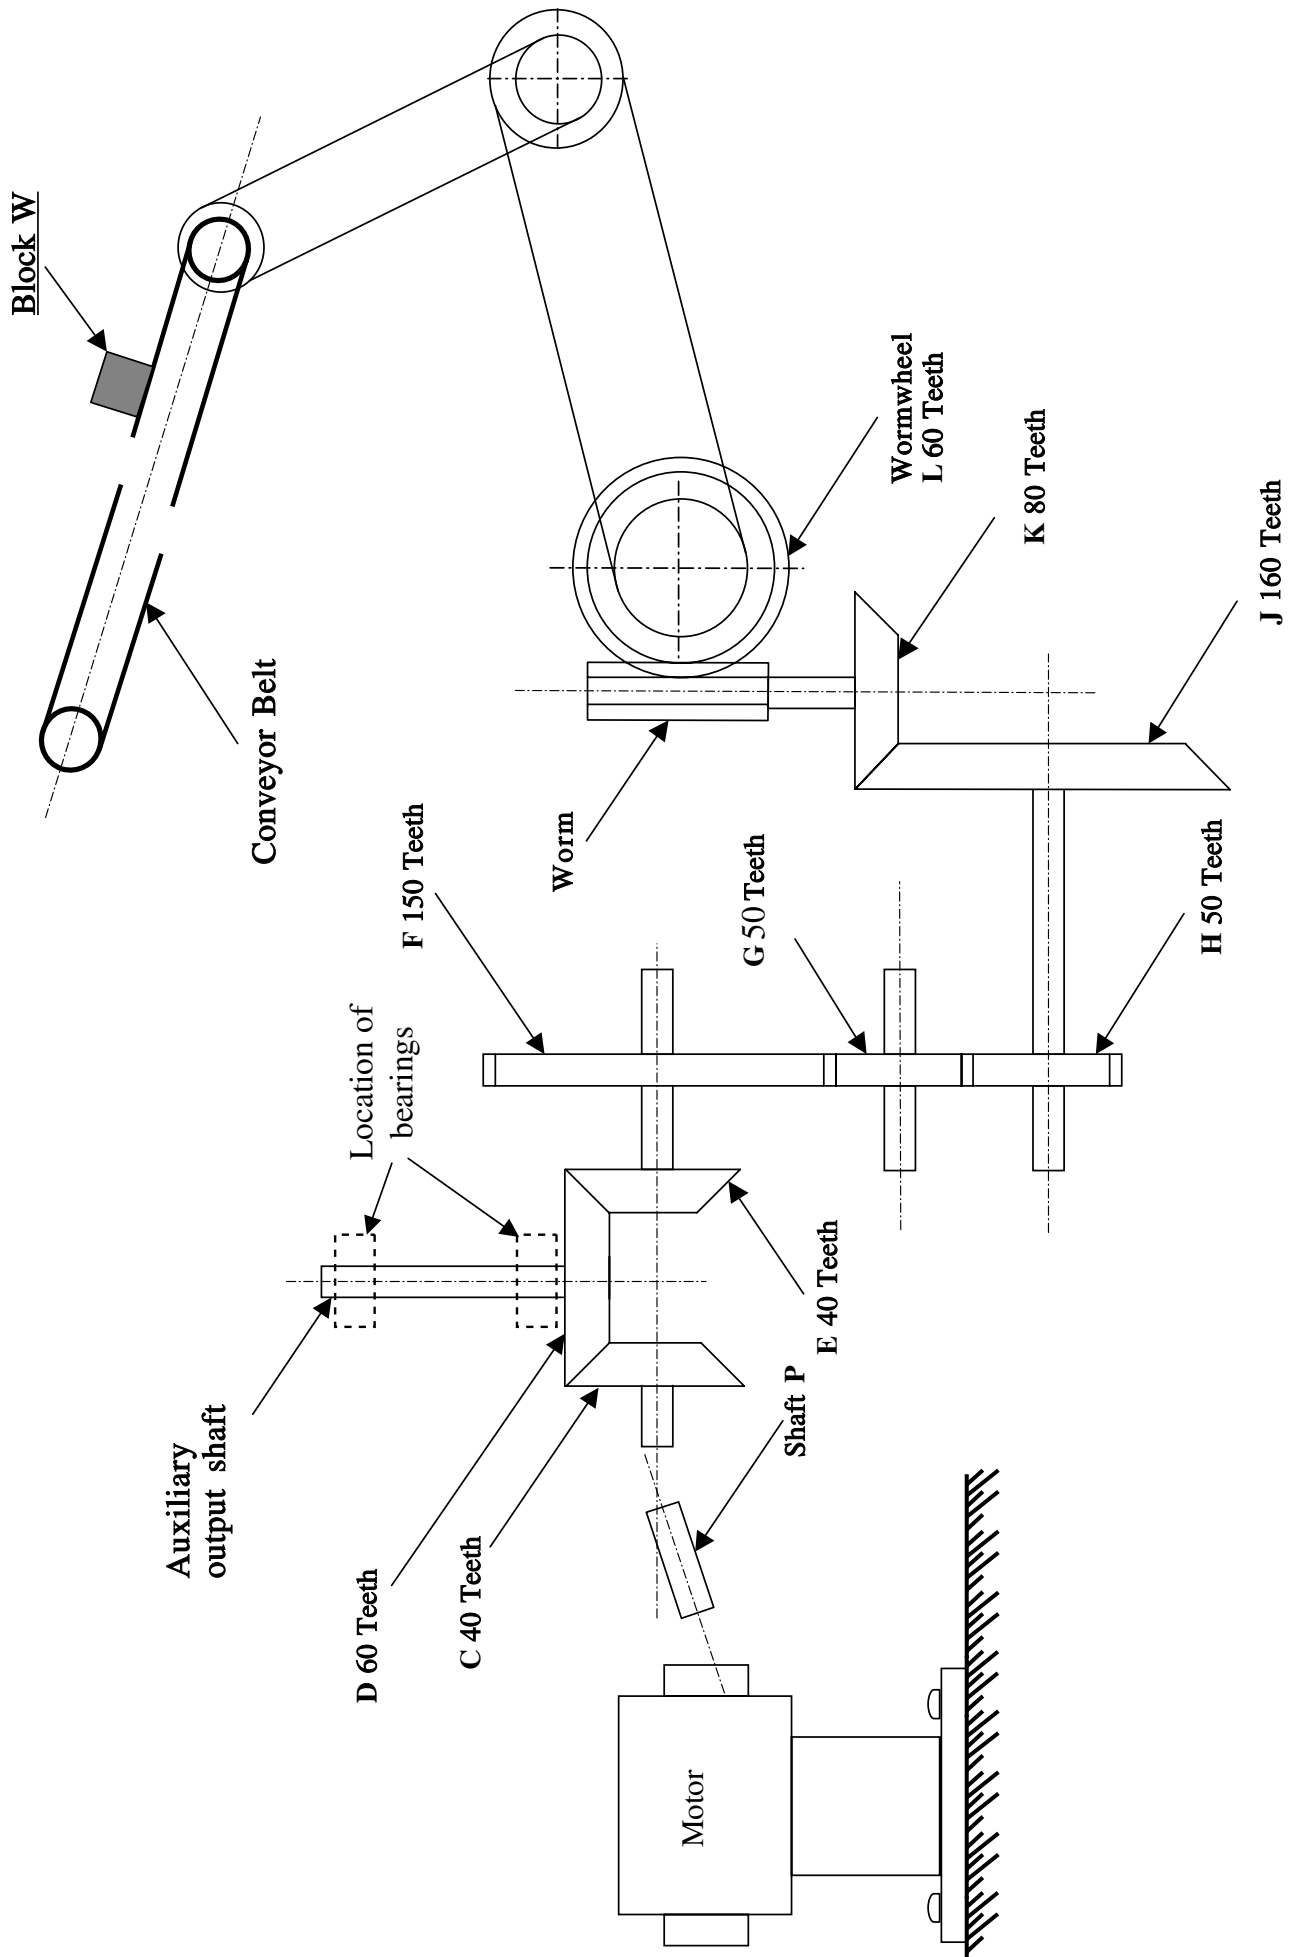

Fig. 4
- 4 Fig. 4** shows part of a prototype drive system used to operate a conveyor belt in a mass production line.